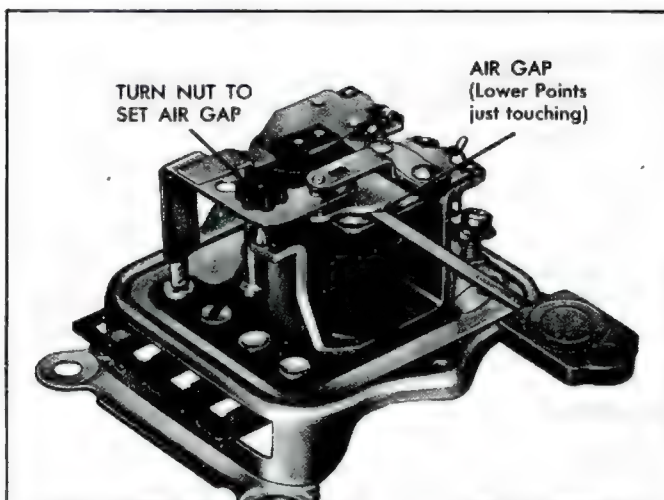

Fig. 22c—Checking Voltage Regulator Air Gap
2. Attach brush holder assembly to the new end frame noting carefully proper parts stack-up (fig. 22c) and insert pin or wire through the hole to hold the brushes in the holder. After the unit has been completely assembled, withdraw the pin or wire from the end frame hole to allow the brushes drop down onto the slip rings.
Air Gap: Measure the air gap with a feeler gauge placed between the armature and core when the lower contacts are touching as shown in Figure 22C. To adjust the air gap, turn the nylon nut located on the contact support.